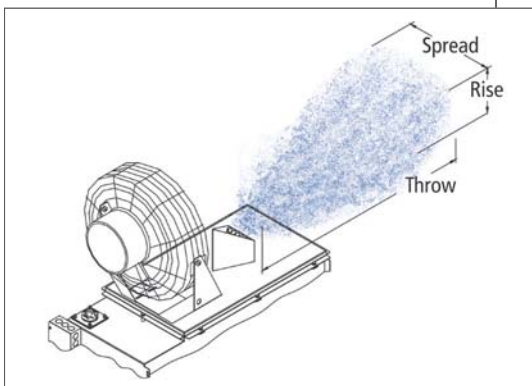

Figure 1: Area-type systems define absorption distance using rise, spread and throw dimensions.
- Absorption distance is the dimension from the leaving side of the dispersion assembly to the point where wetting will not occur. Solid objects such as coils, dampers, or fans beyond this dimension will remain dry, unless they are cooler than the duct air (or space air for area-type systems). Absorption distances in ducts and AHUs are measured in linear inches or feet; area-type systems define absorption distance using rise, spread and throw dimensions (see Figure 1).